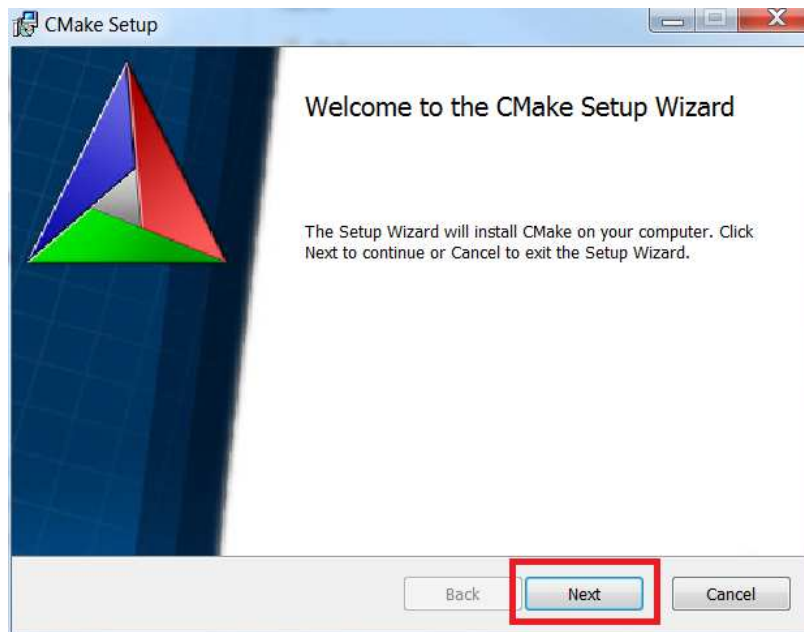

Figure 16. Open CMake Installer
2. Once the download is complete, run the executable. Click “Next” as shown in Figure 16.